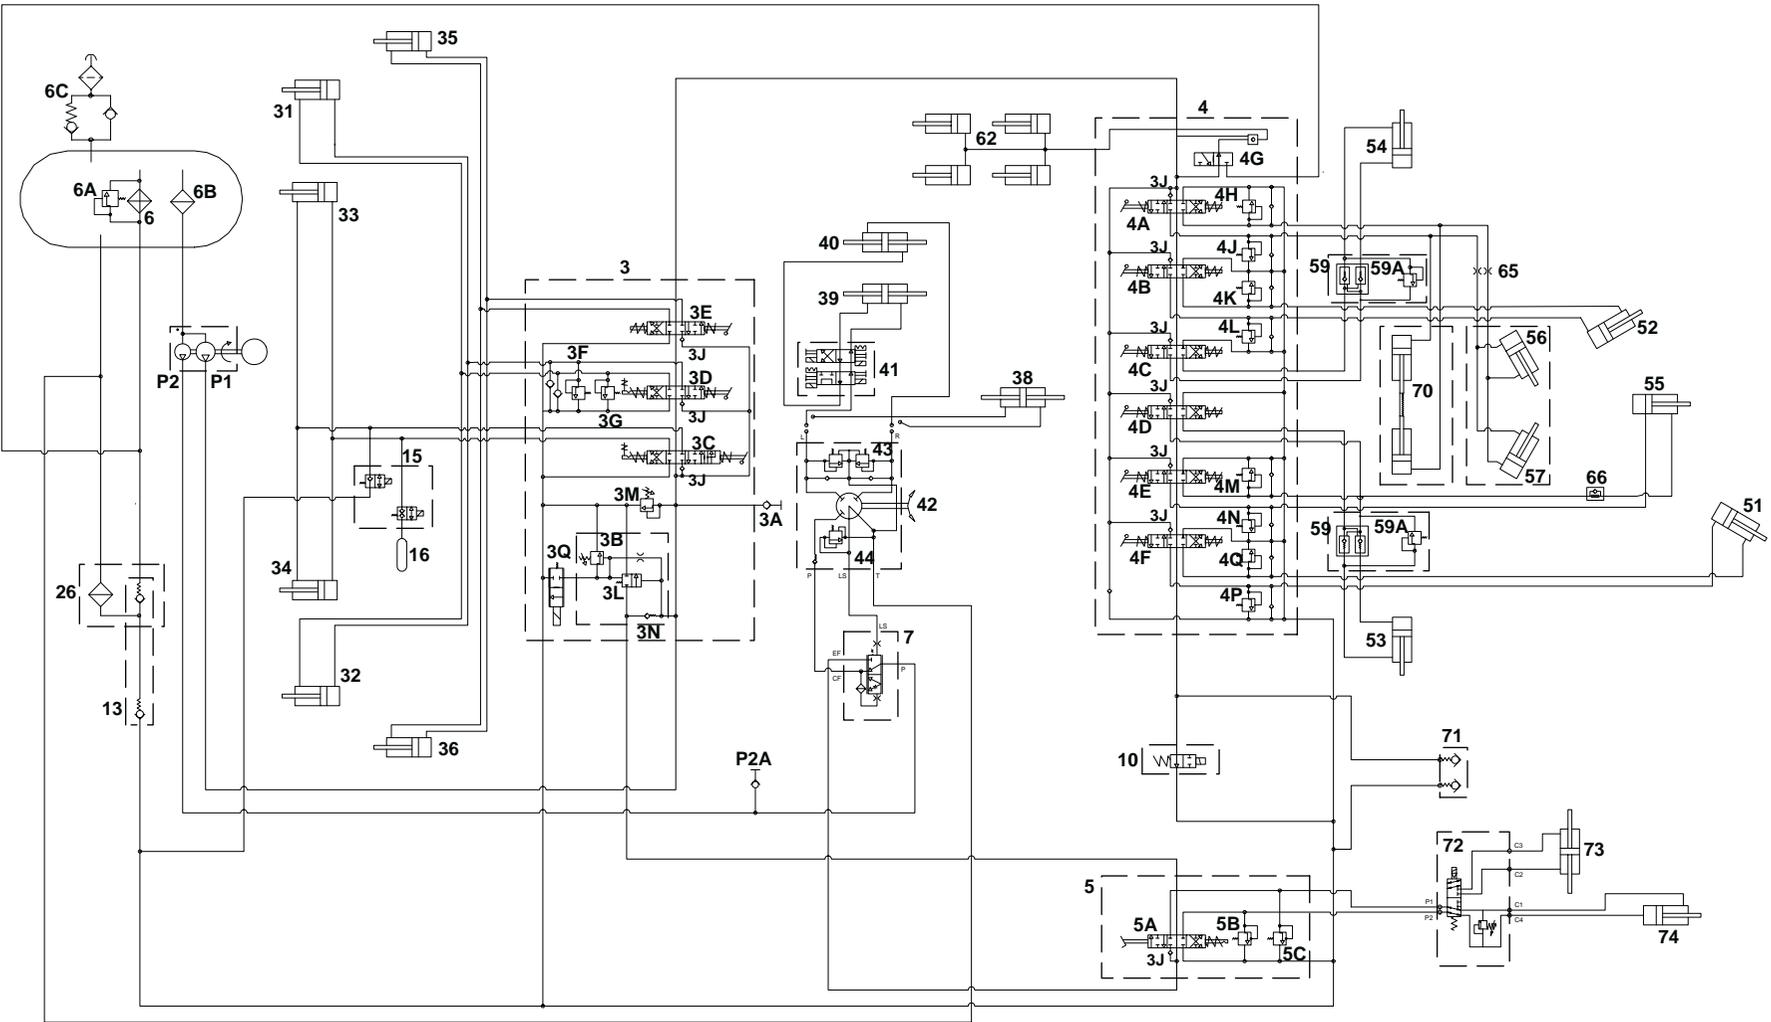

Fig 47. Machines from September 2007
**Component Key:** → Fig 47. (□ E-46)